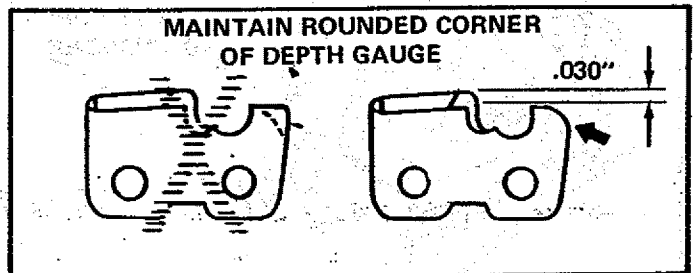

Figure 40
- File level with the flat file if depth gauge is higher than the depth gauge tool. Figure 40.